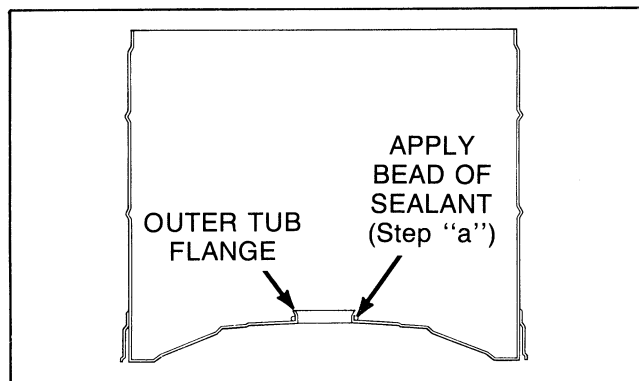

Figure 30
- a. Apply a small amount of No. 27615 Sealant, (supplied in kit) around the outer surface of the tub flange, *Figure 30*.